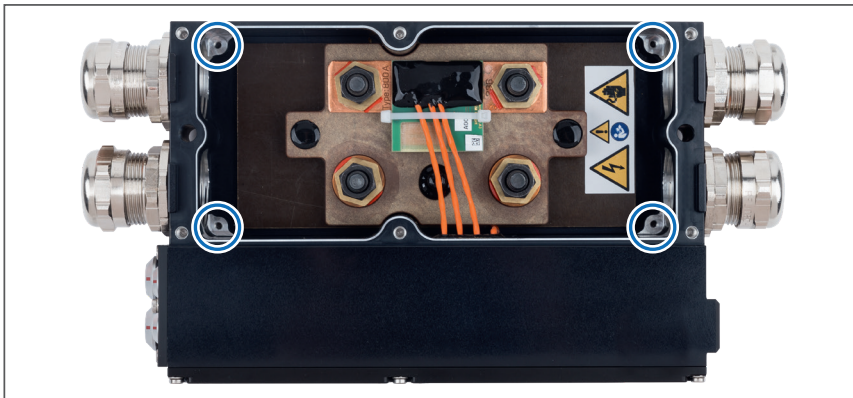

Fig. 4-10: HV BM 1.2, housing opened, M3 threaded holes marked
- ▶ Alternatively, the shield and housing can be directly connected by using the four M3 threaded holes in the HV BM module housing (Fig. 4-10).